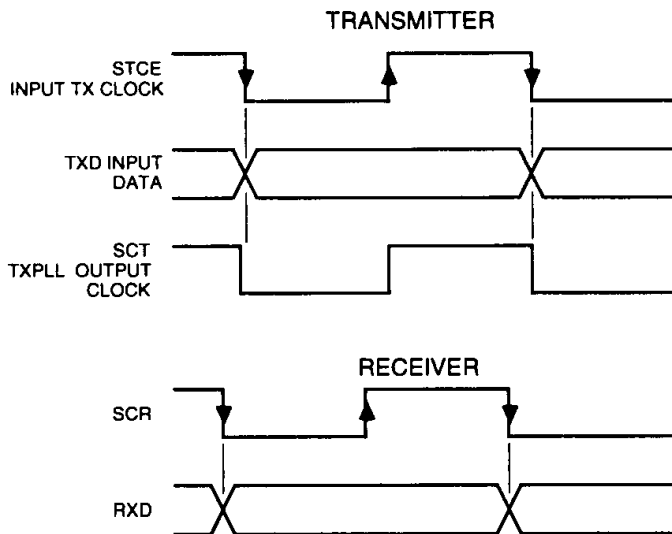

Figure 3. SC11006 Synchronous Mode Timing Diagrams.
**Case 1**—SC11006 Provides the Timing to the Data Terminal Equipment (DTE). See Figure 3.